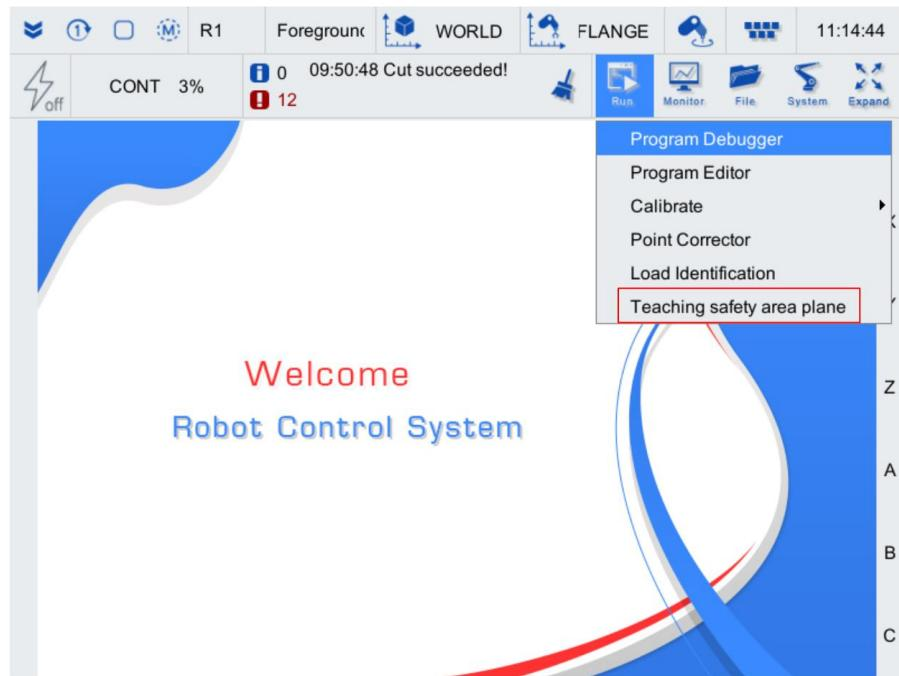

Figure 6-13 Teach pendant main interface
Step8. Click [Run/Teaching safety area plane] on the main interface of the teach pendant (as shown in Figure 6-13), and the robot will play back the last drag trajectory.